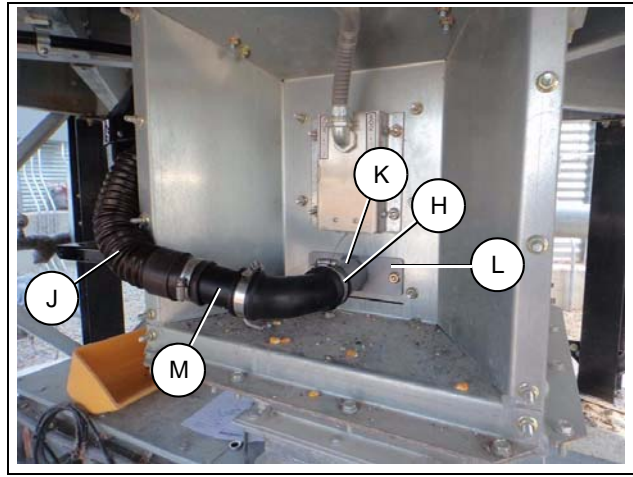

Figure 2F
6. Install the flexible elbow pipe (K) to the blower moisture tube weldment (L) using a hose clamp (H).
7. Install coupler hose (I) to the flexible hose (J).
8. Install one side of the flexible hose (J) with couplers to the blower as shown in Figure 2D and the other side to solid tube (M) as shown in Figure 2F on Page 8.